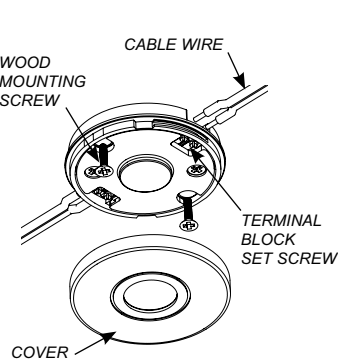
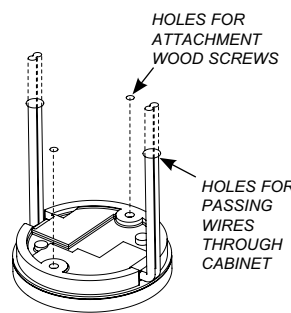

Figure 1a
Figure 2a
Use the template (Fig. 3) to drill two pilot holes for the wood screws before attaching the fixture to mounting surface (Fig. 1.) For a typical under-kitchen cabinet installation, it is recommended to space fixtures 9" to 9-1/2" from back wall to fixture center for even illumination of counter and backsplash. Wiring from transformer to fixture, and fixture to fixture can be handled two ways. **Option-1:** wiring exposed on the underside of the cabinet (Fig 1a). When using option-1 with exposed wiring, it may be easier to wire fixtures before they are installed to mounting surface. Mark the center points of fixtures on mounting surface and drill mounting pilot holes (Fig 3). Take your fixture center-to-center measurement. By subtracting 2" from this dimension, you will have the wire length required to connect fixtures together (refer to wiring diagram). **Option-2:** bring wires in from above fixture mounting surface (Fig 2a). When using option-2 use the template (Fig 3) to drill two holes for wiring to pass through mounting surface (Fig 2a). For optimal, even illumination, it is recommended to space fixtures 18" apart. However, fixture spacing less than or more than 18" will still provide high-quality lighting performance.
Option-1: wiring exposed on the underside of the cabinet (Fig 1a). When using option-1 with exposed wiring, it may be easier to wire fixtures before they are installed to mounting surface. Mark the center points of fixtures on mounting surface and drill mounting pilot holes (Fig 3). Take your fixture center-to-center measurement. By subtracting 2" from this dimension, you will have the wire length required to connect fixtures together (refer to wiring diagram). **Option-2:** bring wires in from above fixture mounting surface (Fig 2a). When using option-2 use the template (Fig 3) to drill two holes for wiring to pass through mounting surface (Fig 2a). For optimal, even illumination, it is recommended to space fixtures 18" apart. However, fixture spacing less than or more than 18" will still provide high-quality lighting performance.
Step 5. Secondary wiring is not polarized. After inserting leads into terminal, tighten terminal block set screws securely to retain wires to 4 in-lb minimum (Fig. 1a.) Make certain no bare conductors are exposed after attachment to terminals.